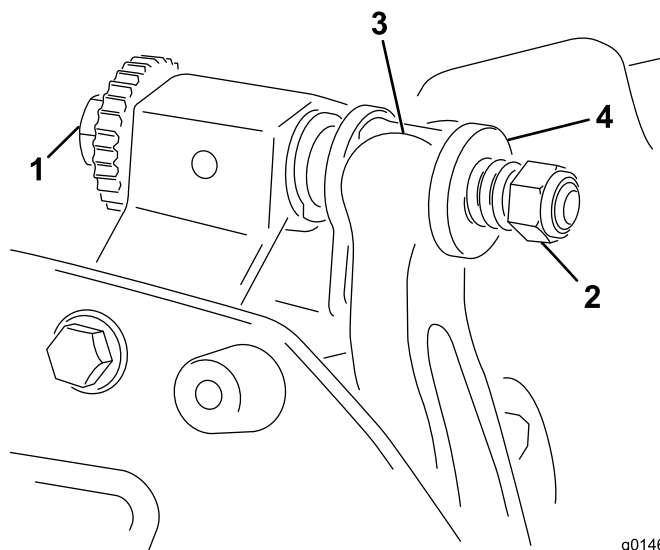

Figure 19
1. Turn the bedbar-adjusting screw, counterclockwise, to back the bedknife away from the reel (Figure 19).
2. Back out the spring-tension nut until the washer is no longer tensioned against the bedbar (Figure 19).